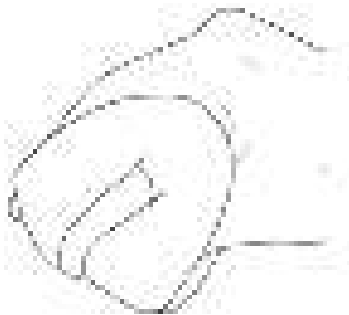

Figure 12
6. Rinse in clean water by submerging the air filter element in fresh water and applying a slow squeezing action (see Figure 12).